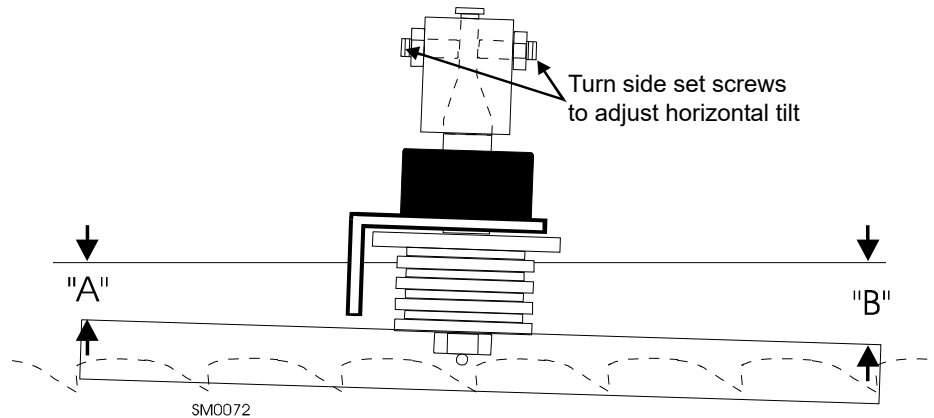

FIG. 6-14
See figure 6-14.
5. The blade guide roller should be parallel to the blade ($A=B$) or slightly tilted in the horizontal plane as shown in Figure 6-14 ($A=B-6$ mm). If this condition is not met, adjust the roller in the horizontal plane using the side set screws on the blade guide (see figure above).